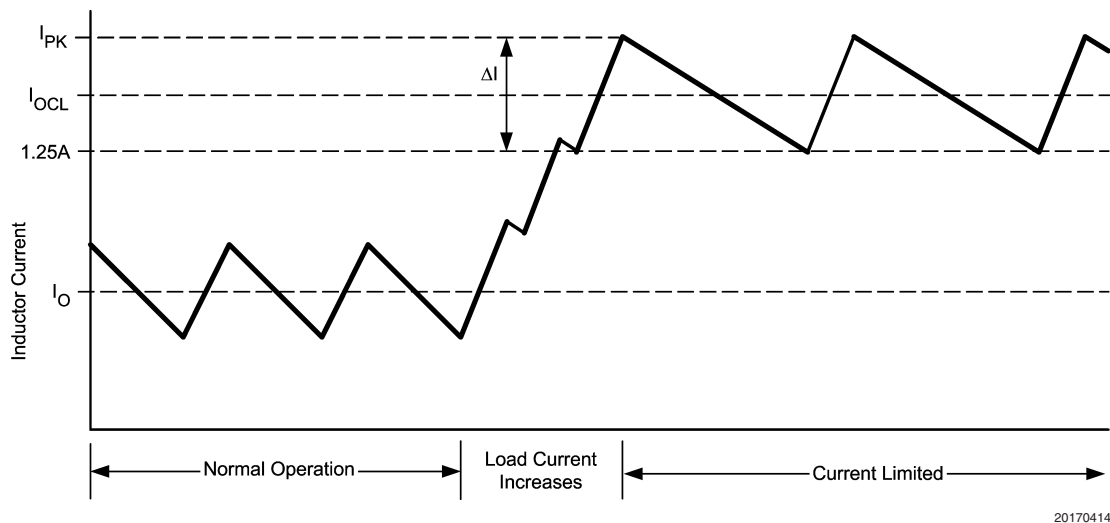

FIGURE 7. Inductor Current - Current Limit Operation
*Figure 7* illustrates the inductor current waveform. During normal operation the load current is  $I_O$ , the average of the ripple waveform. When the load resistance decreases the current ratchets up until the lower peak reaches 1.25A. During the Current Limited portion of *Figure 7*, the current ramps down to 1.25A during each off-time, initiating the next on-time (assuming the voltage at FB is <2.5V). During each on-time the current ramps up an amount equal to:
The lesser of Equations 9 and 10 is then used in Equation 8. If  $I_{OR(MAX2)}$  is used, the maximum  $V_{IN}$  is used in Equation 8. The next larger value should then be used for L1. If  $I_{OR(MIN1)}$  is used, the minimum  $V_{IN}$  is used in Equation 8. The next smaller value should then be used for L1. L1 must be rated for the peak value of the current waveform ( $I_{PK}$  in Figure 7).
**D1:** The important parameters are reverse recovery time and forward voltage. The reverse recovery time determines how long the reverse current surge lasts each time the buck switch is turned on. The forward voltage drop is significant in the event the output is short-circuited as it is mainly this diode's voltage (plus the voltage across the current limit sense resistor) which forces the inductor current to decrease during the off-time. For this reason, a higher voltage is better, although that affects efficiency. A reverse recovery time of  $\approx 30$  ns, and a forward voltage drop of  $\approx 0.75V$  are preferred. The reverse leakage specification is important as that can significantly affect efficiency. D1's reverse voltage rating must be at least as great as the maximum  $V_{IN}$ , and its current rating must equal or exceed  $I_{PK}$  Figure 7.